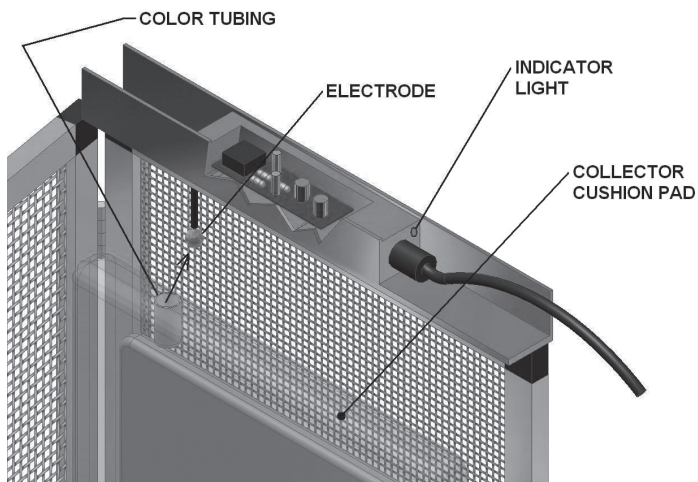

Fig. 3 Slide plastic tube (inside media) over electrode
6. Insert new Collector Pad, electrode slides into plastic tube inside Pad (Fig. 3).